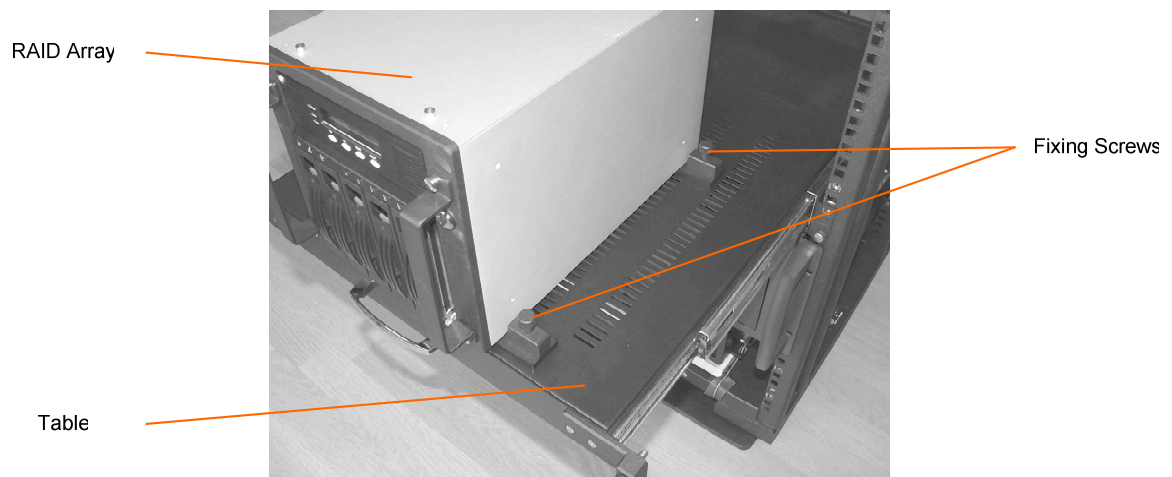

Figure 1.7: RAID-array mounting on in-out table of the rack.
- Place RAID-array onto the table, coincide with fixing holes and screw fixing screws. (Figure 1.7)